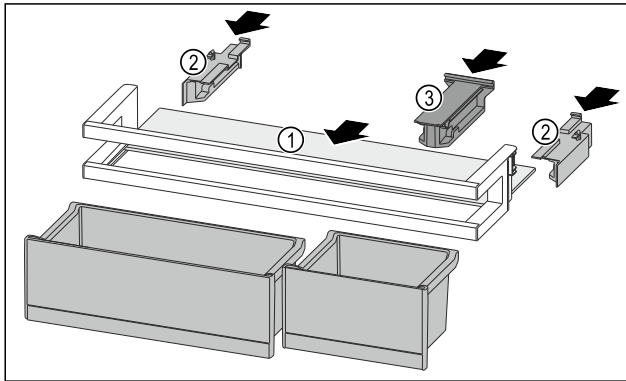

Fig. 94
- ▶ Push the shelf Fig. 94 (1) into the side recesses.
- ▶ Insert the side parts Fig. 94 (2).
- ▶ Insert the holding part Fig. 94 (3).